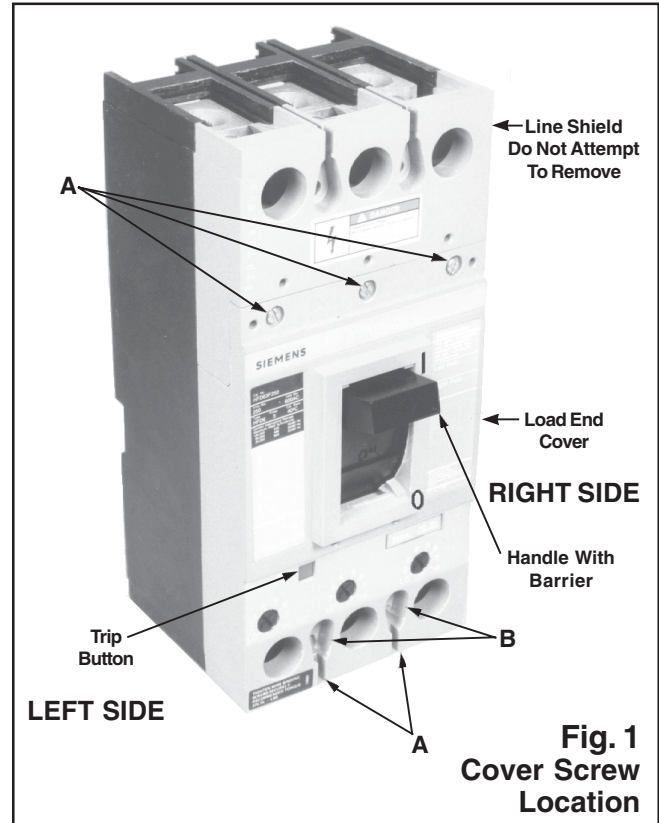

Fig. 1
- Depress trip button (See Fig. 1) to trip circuit breaker prior to removing cover. Before installing accessory unit, breaker **must** be in tripped position.
- Remove five load end cover screws (A, Fig. 1) and, if breaker is mounted, also remove two mounting screws (B, Fig. 1). Remove load end cover only, and remove handle and handle barrier.
7. Replace handle and handle barrier (orient tabs and handle "ON" marking nearest trip unit), load end cover and cover screws (quantity 5), and two mounting screws if removed (See A & B, Fig. 1).